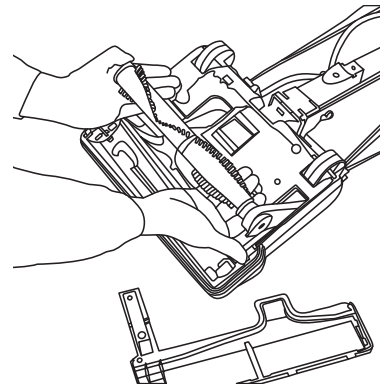

Fig. 14
3. Loop the new belt around the motor drive shaft and the brushroll (Fig. 14).